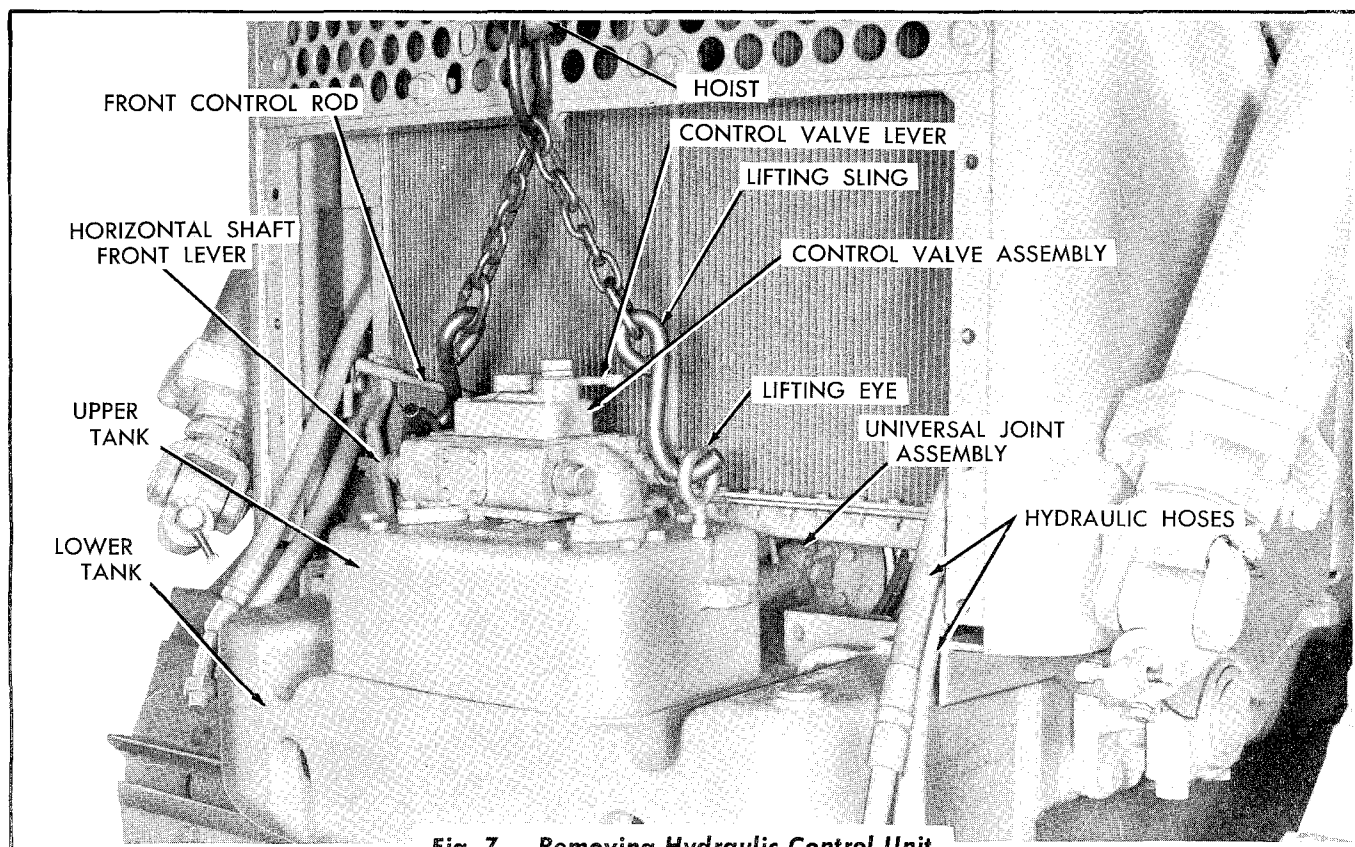

Fig. 7 — Removing Hydraulic Control Unit
4. Remove the four nuts securing the hydraulic tank assembly on the mounting studs. Using a suitable hoist, sling, and eye bolts, move the control unit forward until it is free of the mounting studs and remove the control unit from the tractor as shown in Figs. 7 or 8.